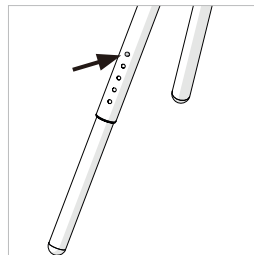

Fig. 3
- Push in the inner leg locking pin (**Fig. 3**) and carefully slide out the inner leg to the desired position.
- Adjust all four (4) legs ensuring that all are set to the same length.